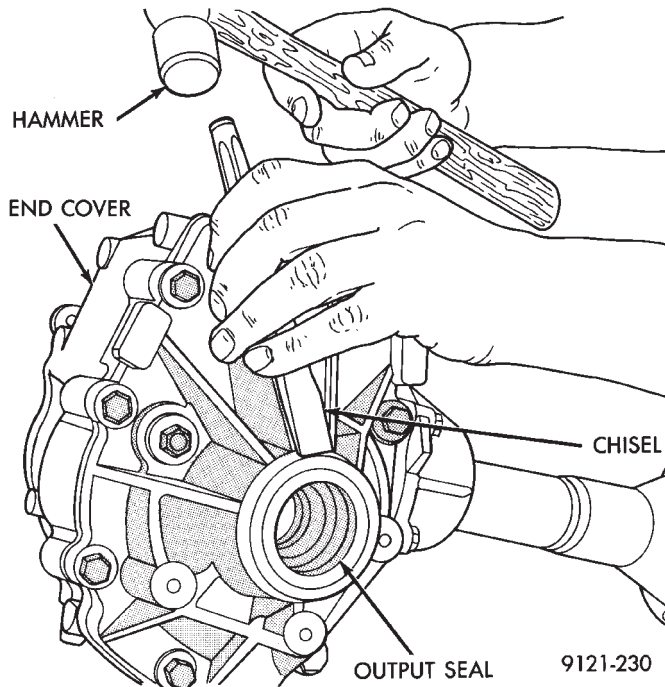

Fig. 1 Seal Removal
- (1) Lift vehicle on hoist.
- (2) Remove right front half shaft from vehicle.
- (3) Remove seal with a chisel and hammer (Fig. 1).